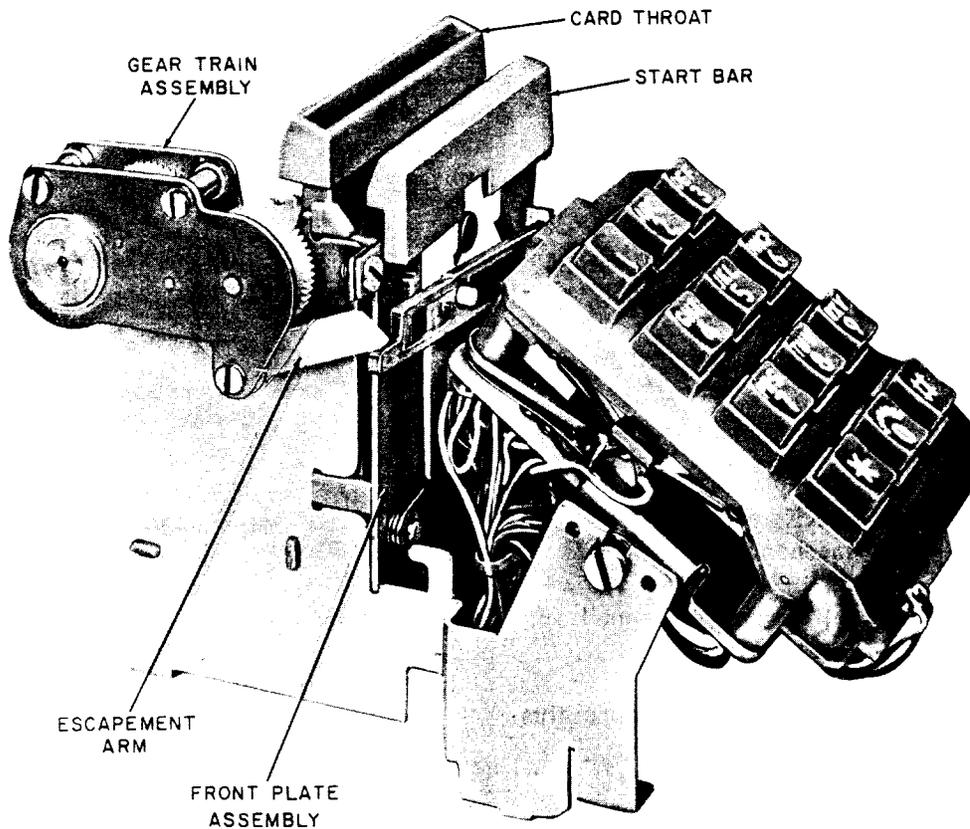

Fig. 3—36E, J, or K Dials, Left Side View
- Gear train assembly—controls speed and timing (Fig. 3)
- Front plate assembly—controls start and stop action (Fig. 3)
- (e) Escapement arm (Fig. 3) should work freely without binding or catching.
- (6) Inspect precoded cards. All cards bent, warped, dirty (heavy accumulation of dirt), or deformed by heat (such as cigarette burns) should be replaced.